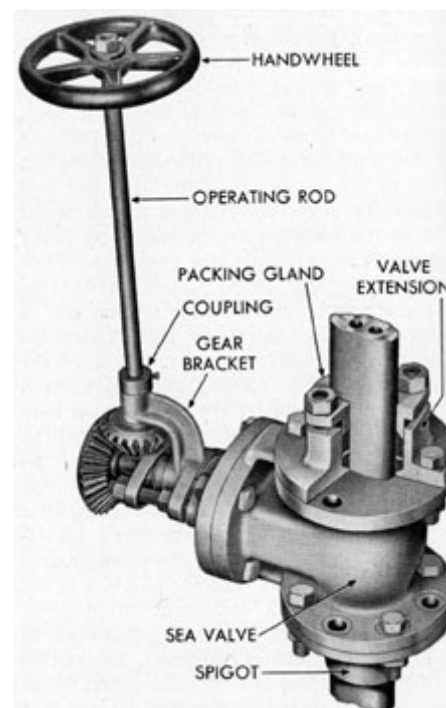

Figure 10-6. Sea valve.
**10C2. Sea valve.** The sea valve assembly (Figure 10-6) supports the rodmer when the rodmer is projected into the sea, and prevents water from entering the ship when the rodmer is removed. The valve is a 3-inch gate valve, operated by a handwheel on an operating rod which in turn is bevel-gear to the valve stem. The sea valve is bolted to the inner hull of the ship. A valve extension with packing gland is mounted to the top flange of the valve. This extension provides an upper support when the rodmer is projected into the sea, and also provides a leakproof gland around the rodmer.